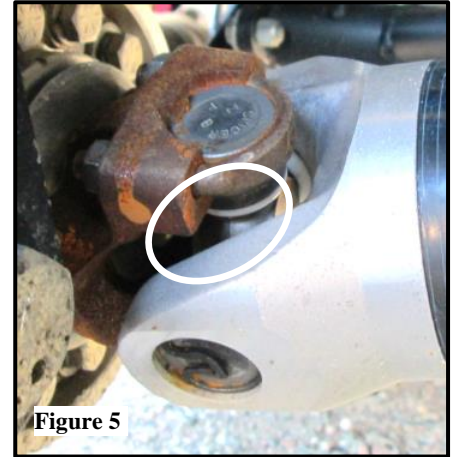

Figure 5
- c) Note in **Figure 5** where the U-bolts can contact the yoke during extreme pinion angle changes. This is one area to watch for interference between the U-bolt and tube yoke. Be sure to check all around yokes to ensure clearance.